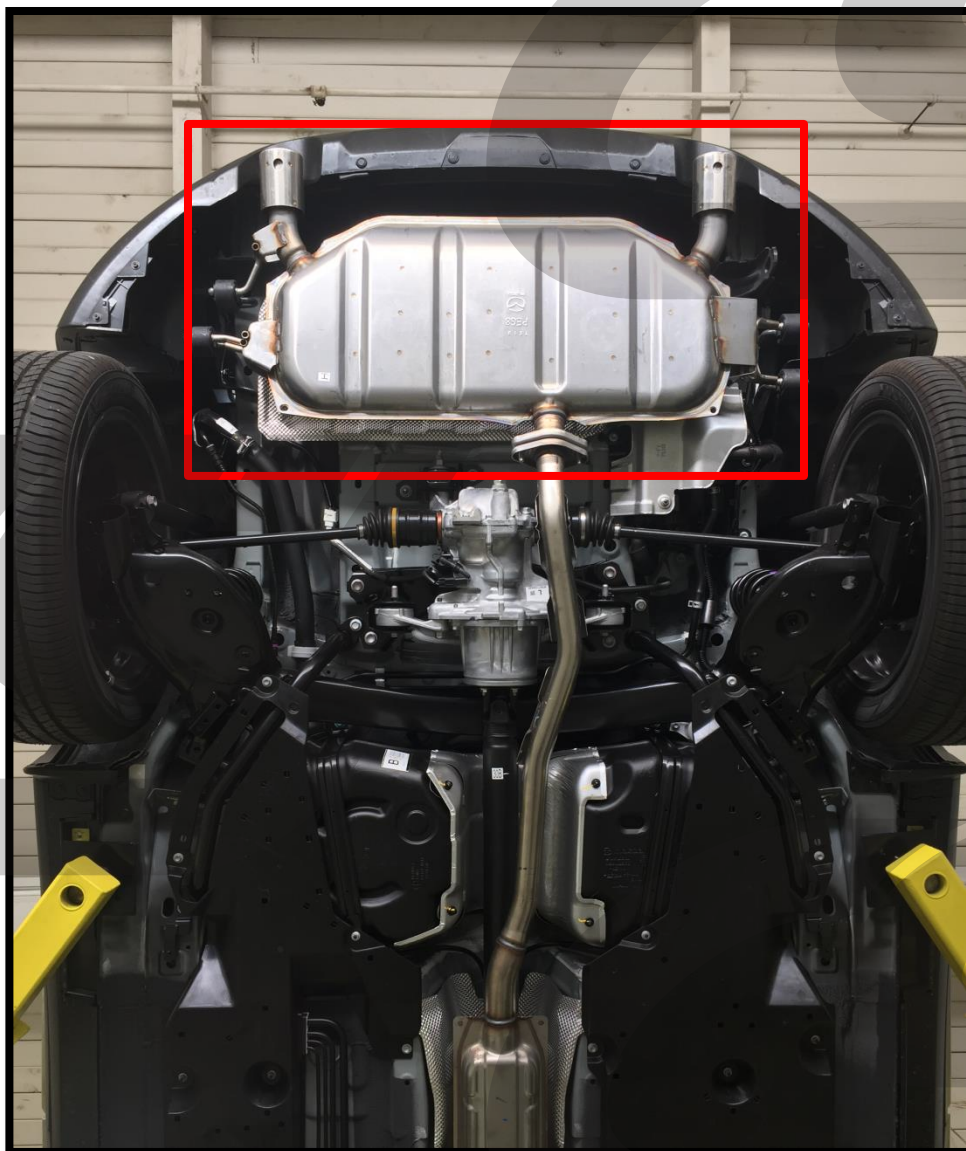

Figure 1a
- a) Use a floor jack and jackstands to gain access to the underside of the vehicle. You will need to access the axle back exhaust section. Shown in **Figure 1a**.